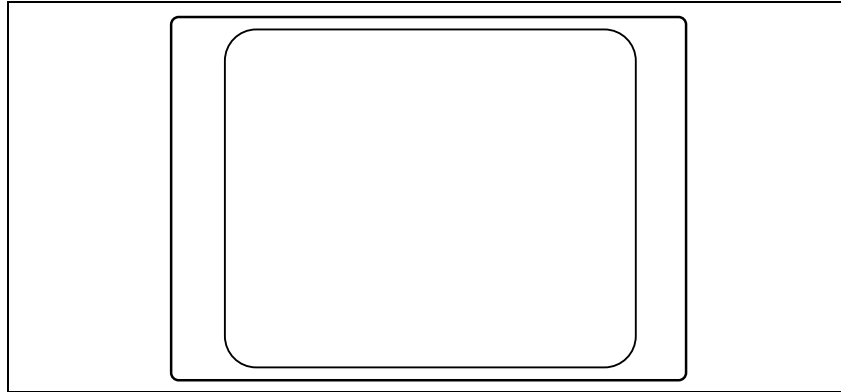

Figure 5.66
5. Click "Zoom". The message "Please wait" is displayed on the monitor, then the full screen image appears (see Figure 5.66).